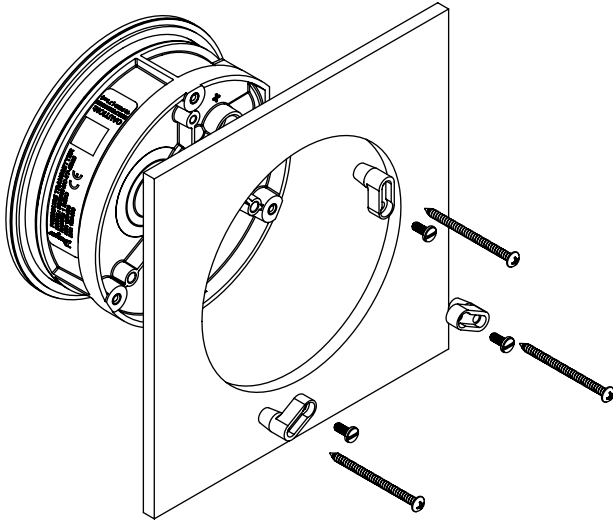

Figure 1: Panel mount
2. Insert gage and secure in place with provided screws and mounting lugs as shown in Figure 1.